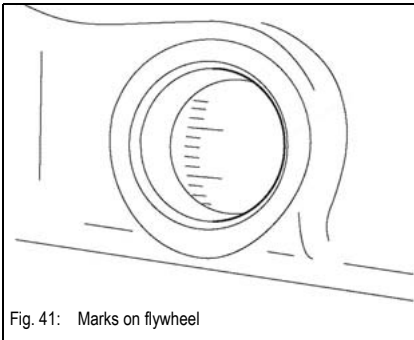

Fig. 41: Marks on flywheel
- ➔ The injection time must be measured to determine whether it is premature or too late, see Fig. 41